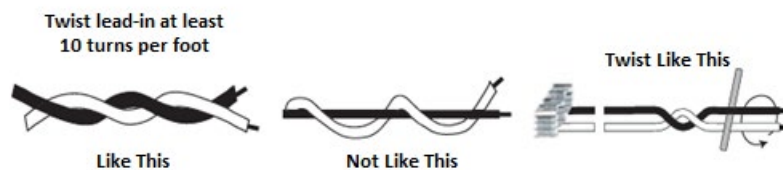

Figure 22. Lead-in Wire Twisting
7. Twist loose tails of lead-in wires tightly, approximately ten times per foot. See Figure 22.